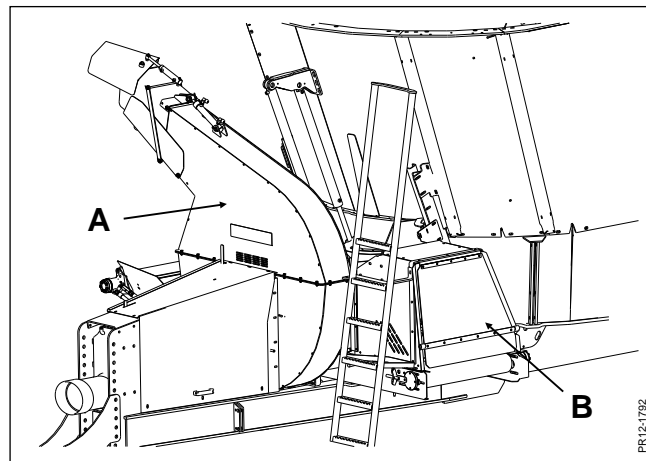

Fig. 2-1
Fig. 2-1 KONGSKILDE's solution is very unique and has been patented. The solution is unique because both the straw bedder (A) and the cross conveyor for feeding (B) are placed at the front. This guarantees a perfect view.